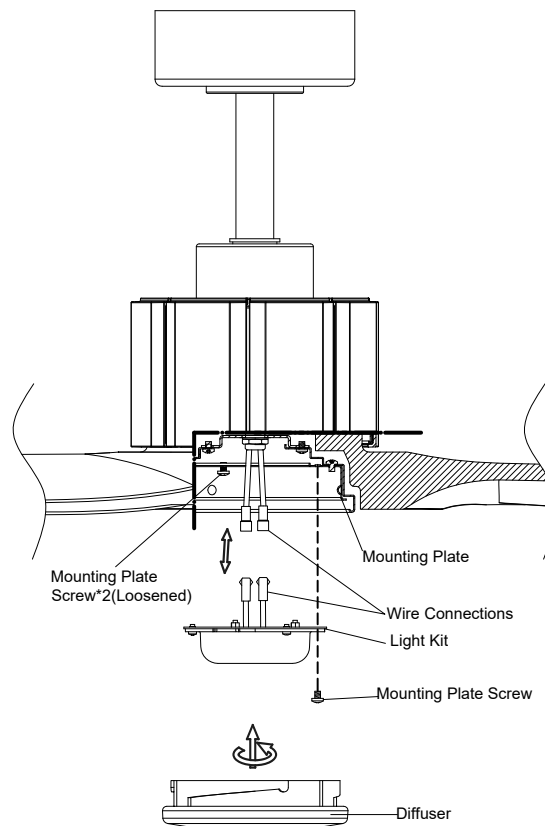

Fig. 15
Step 2. Loosen two of the mounting plate screws on the mounting plate, and remove and save the third mounting plate screw. **(Fig. 15)**
Step 3. While holding the light kit under your ceiling fan, push the wire connectors together. One from the fan and one from the light kit. **(Fig. 15)**
Replace the third mounting plate screw that was previously removed, and tighten all 3 mounting plate screws to secure. **(Fig. 15)**
Step 5. Raise the diffuser up to the fan, seat against the mounting plate, and turn (clockwise) into the mounting plate until snug, **DO NOT OVER TIGHTEN**. **(Fig. 15)**